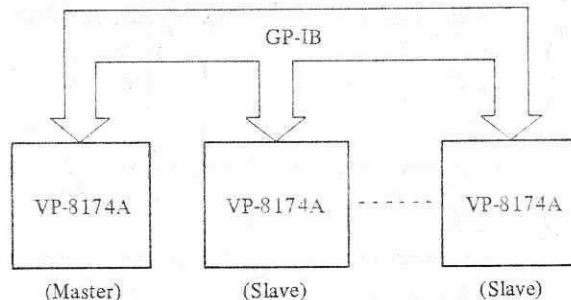

Fig. 6-1 Interlocked memory control system
Fig. 6-1 shows the connection of the system.
(3) Interlocked memory recall
- (a) Connect VP-8174A as shown in Fig. 6-1.
- (b) Follow the procedure given in paragraph 6-4 (1)